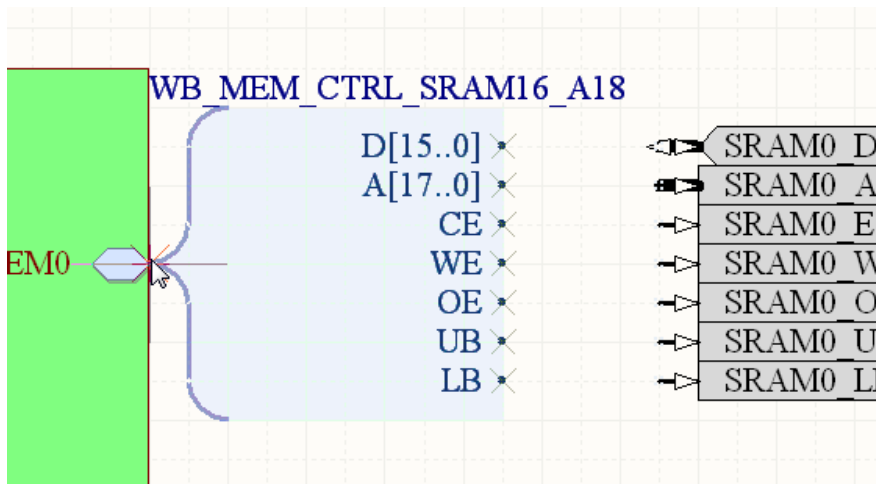

Figure 10. Flip the Signal Harness and place it so that it touches the Sheet Entry.
21. A Harness Connector will appear floating on the cursor. It may be oriented the wrong way, if it needs to be flipped along the X axis press the X key on the keyboard. Place it so that the tip of the brace touches the Sheet Entry, as shown in Figure 10.